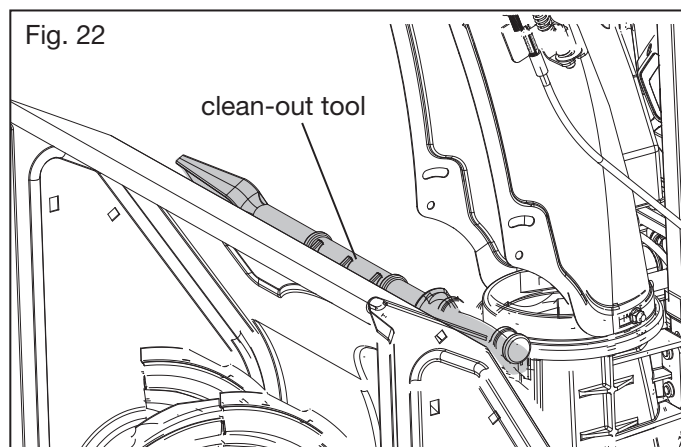

Fig. 22
3. Always use the chute clean-out tool which is attached to the machine as an accessory. **DO NOT USE YOUR HAND** (Fig.22).